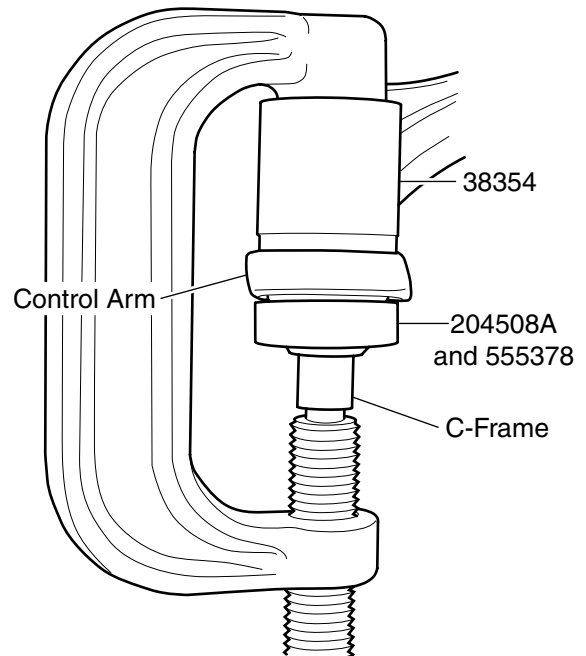

Figure 2. Ball Joint Installation
3. Position 38354 (or 29505 and 305227) on the ball joint as shown in Figure 2.